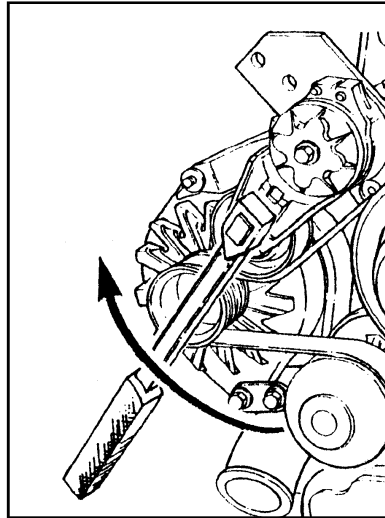
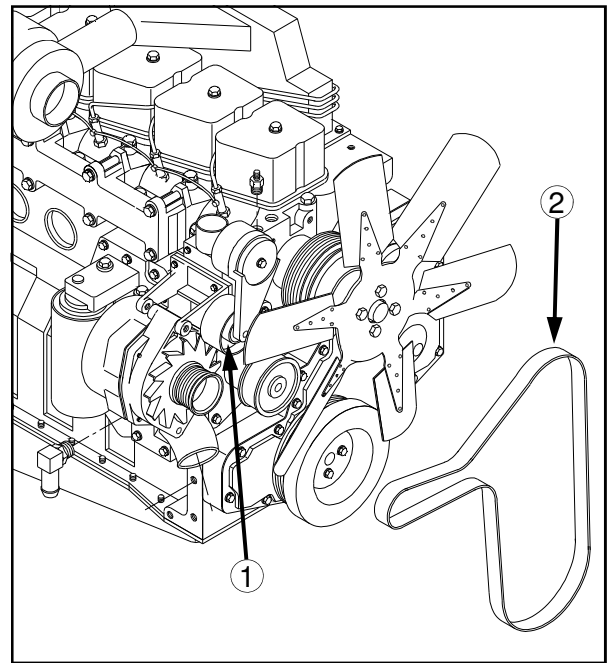

FIG 7.94-1
FIG 7.94-2
REMOVAL– Insert a 1/2 inch square ratchet drive (fig. 7.94-1) into the belt tensioner (fig. 7.94-2, item 1) and lift upward to remove the belt (fig. 7.94-2, item 2).